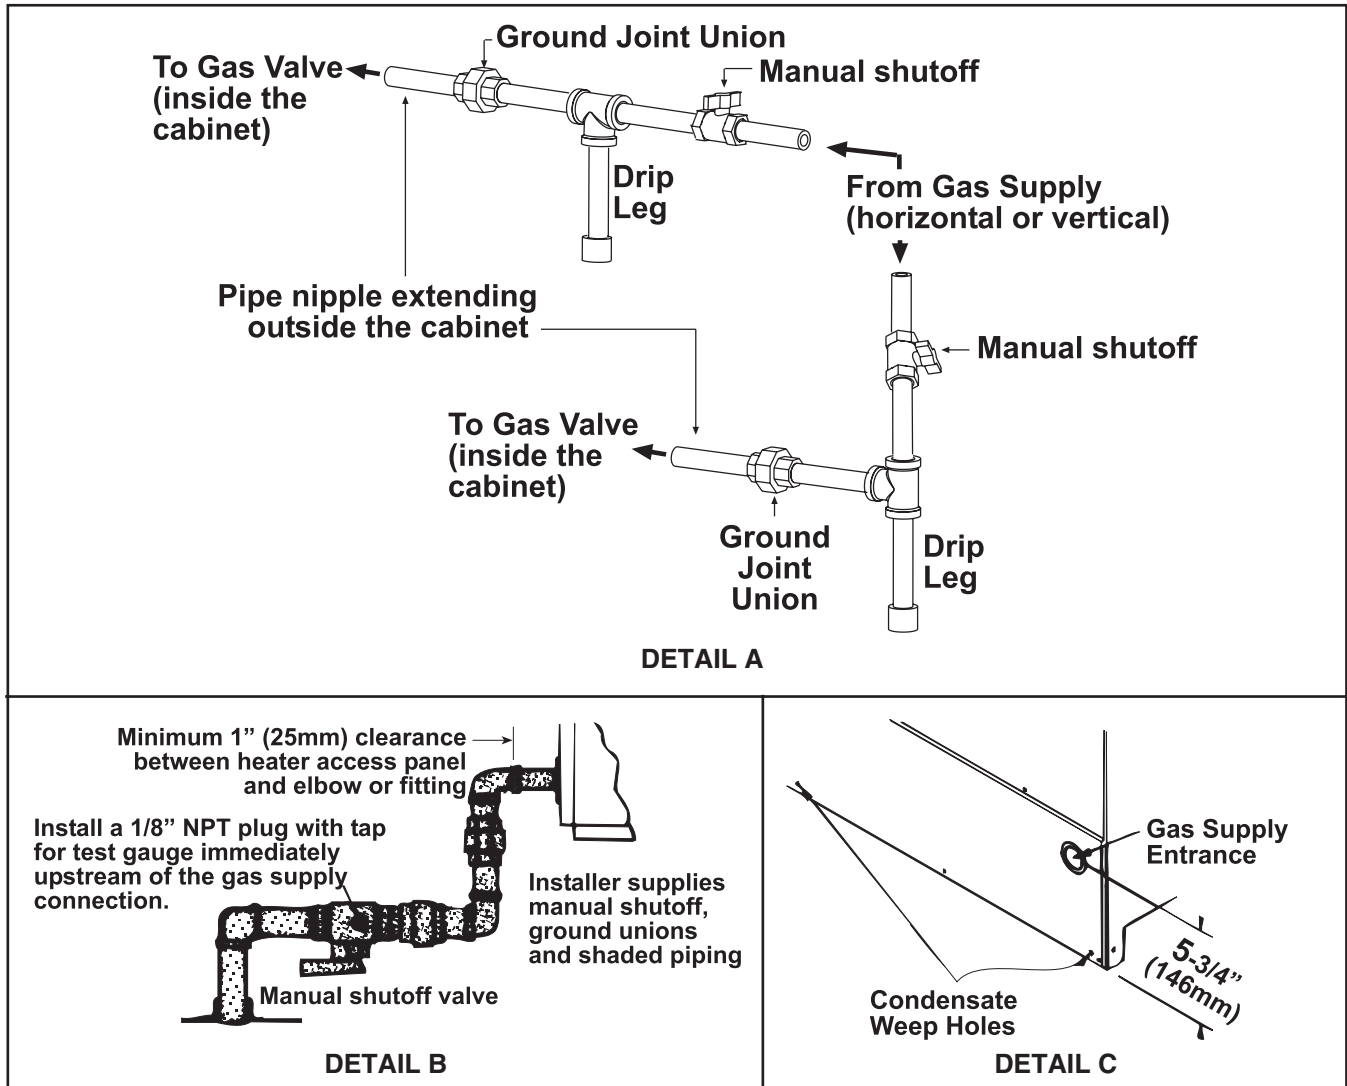

Figure 13. Gas Connections
- Install a ground joint union and manual shutoff valve upstream of the unit control system. The 1/8-inch plugged tapping in the shutoff valve provides connection for the supply line pressure test gauge. The *National Fuel Gas Code* requires the installation of a trap with a minimum 3-inch drip leg. Local codes may require a longer drip leg, typically 6-inch (see **Figure 13**, DETAIL A).
- Gas connection location and requirements are shown in **Figure 13**, DETAIL B.
- Install the gas supply piping so that when the union is disconnected, the supply pipe will not interfere with the removal of the burner rack (see **Figure 13**, DETAIL C). The burner rack slides out of the control side of the furnace.